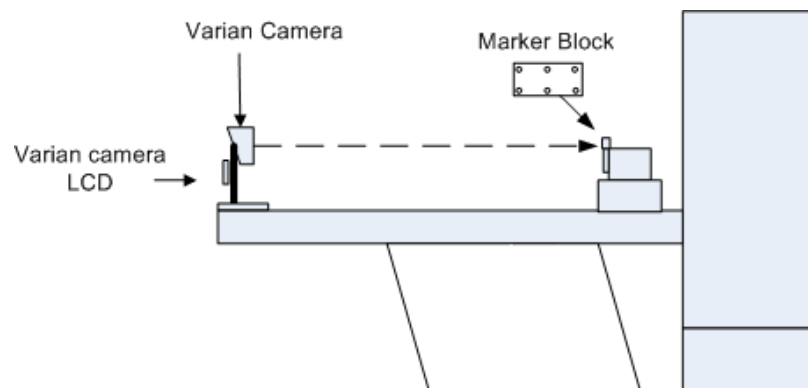

FIGURE 5-3: CAMERA AND PHANTOM SETUP
6. Refer to figure 5-3. Place the RPM Breathing Phantom on the table near the table head holder end of the gantry.
8. Refer to Figure 5-3 and 5-4. Adjust camera head and Breathing Phantom so the dots from the marker block appear in the camera’s LCD display window.